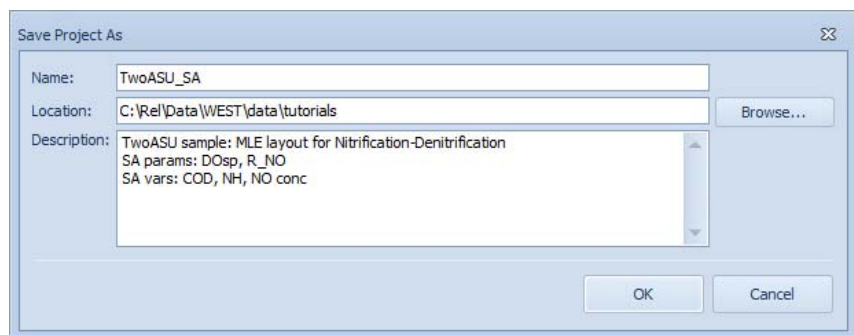

Figure 11.1 Save As dialogue, to use the TwoASU sample as the starting point for the Scenario Analysis experiment
- Provide a name and a description for the new Project (Figure 11.1)